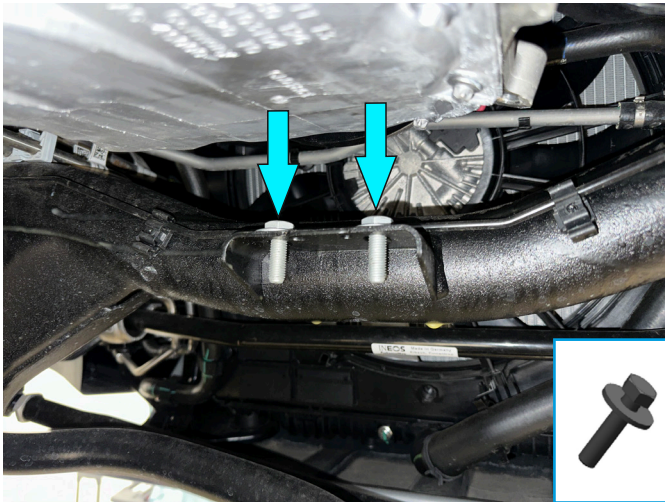

Fig. 1
1. Install bolts M10x30 with washers M10 (items B, E) into holes as shown in fig.1.